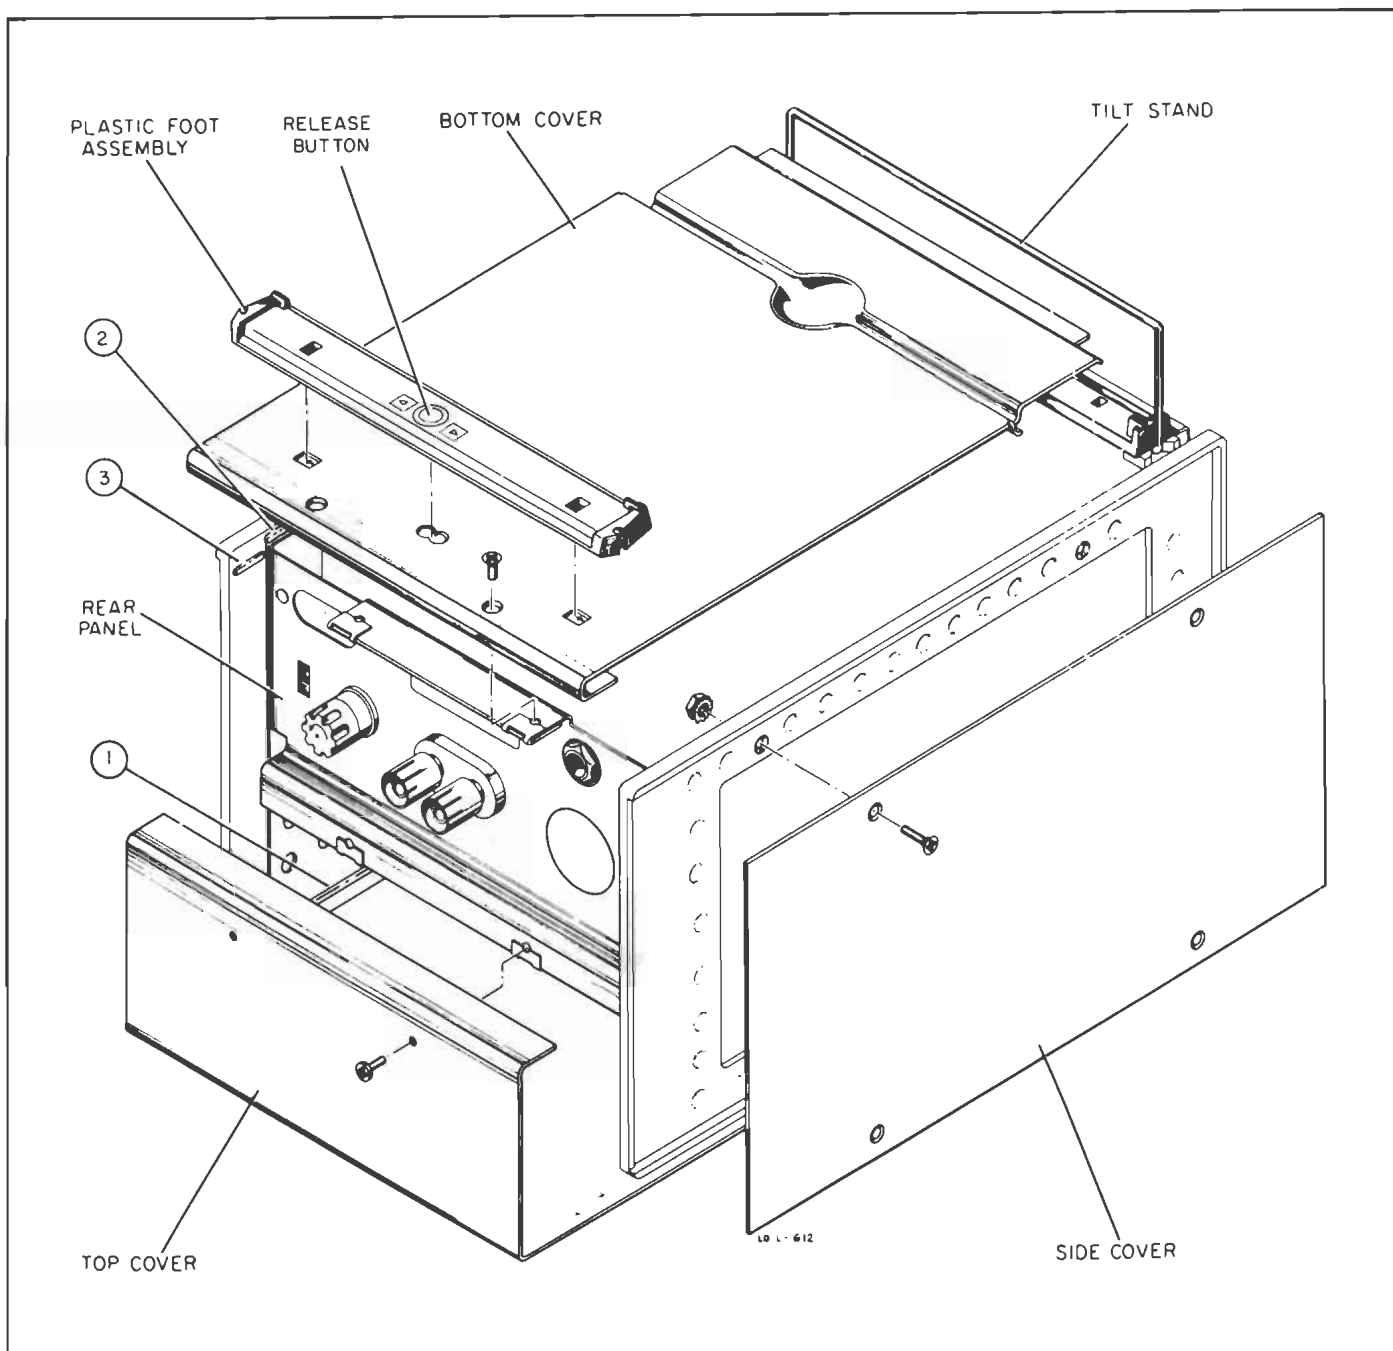

Figure 5-1. Cover Removal
5-5. Refer to figure 5-1 when removing instrument covers. Removal of the top cover exposes the circuit areas shown in figure 5-2. Routine checks and adjustments can be performed without the removal of other covers. However, operations such as soldering on
a. Rest the cover flat on the cast guides projecting inward near the top of each side frame (see , figure 5-1).
- Set the tilt stand as shown in figure 5-1.
- Rest the bottom cover flat on the cast guides projecting inward near the bottom of each side frame (see (2), figure 5-1).
- Slide the cover forward on the guides so that the formed portion at the rear of the cover slides over the two short projections at the rear corner of each side frame (see (3), figure 5-1).